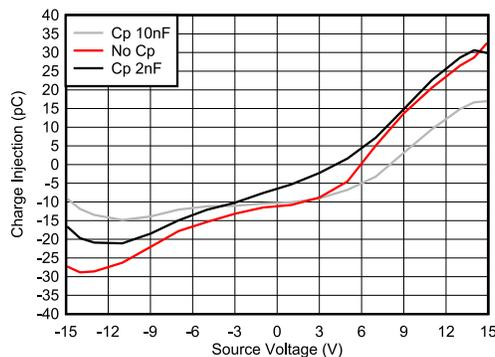

Figure 9-2. Charge Injection Compensation
The TMUX620x contain specialized architecture to reduce charge injection on the Drain (D). To further reduce charge injection in a sensitive application, a compensation capacitor (C_p) can be added on the Source (S_x). This will ensure that excess charge from the switch transition will be pushed into the compensation capacitor on the Source (S_x) instead of the Drain (D). As a general rule of thumb, C_p should be 20x larger than the equivalent load capacitance on the Drain (D). Figure 9-2 shows charge injection variation with different compensation capacitors on the Source side. This plot was captured on the TMUX6219 as part of the TMUX62xx family with a 100pF load capacitance.
Many SAR ADCs have an analog input structure that consists of a sampling switch and a sampling capacitor. Many signal chains will have a driver amplifier to help charge the input of the ADC to meet a fast system acquisition time. However a driver amplifier is not always needed to drive SAR ADCs. Figure 9-2 shows a typical diagram of a sensor driving the SAR ADC input directly after being passed through the multiplexer. A filter capacitor (C_{FLT}) is connected to the input of the ADC to reduce the sampling charge injection and provides a charge bucket to quickly charge the internal sample-and-hold capacitor of the ADC.
The sensor block simplifies the device into a Thevenin equivalent voltage source (V_{TH}) and resistance (R_{TH}) which can be extracted from the device datasheets. Similarly the multiplexer can be thought of as a series resistance (R_{ON(MUX)}) and capacitance (C_{ON(MUX)}). To ensure maximum precision of the signal chain the system should be able to settle within 1/2 of an LSB within the acquisition time of the ADC. Figure 9-2 shows the time constant can be calculated. This equation highlights the importance of selecting a multiplexer with low on-resistance to further reduce the system time constant. Additionally low charge injection performance of the multiplexer is helpful to reduce conversion errors and improve accuracy of the measurements.